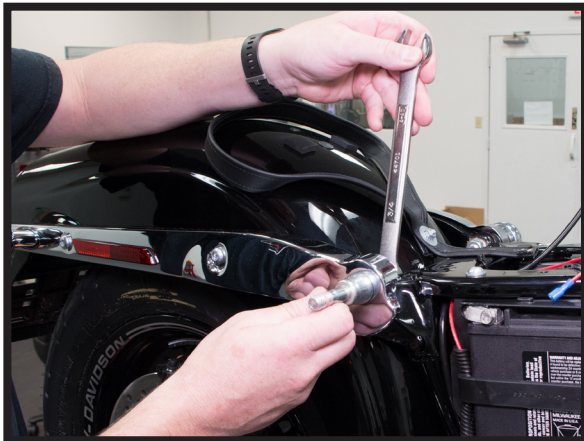

FIGURE 17
9. REMOVE THE OE SHOCKS AND THE UPPER SHOCK MOUNT POSTS. SAVE THE NUT AND WASHER FROM THE POST; YOU WILL NEED TO REUSE THESE. (FIGURES 17, 18)